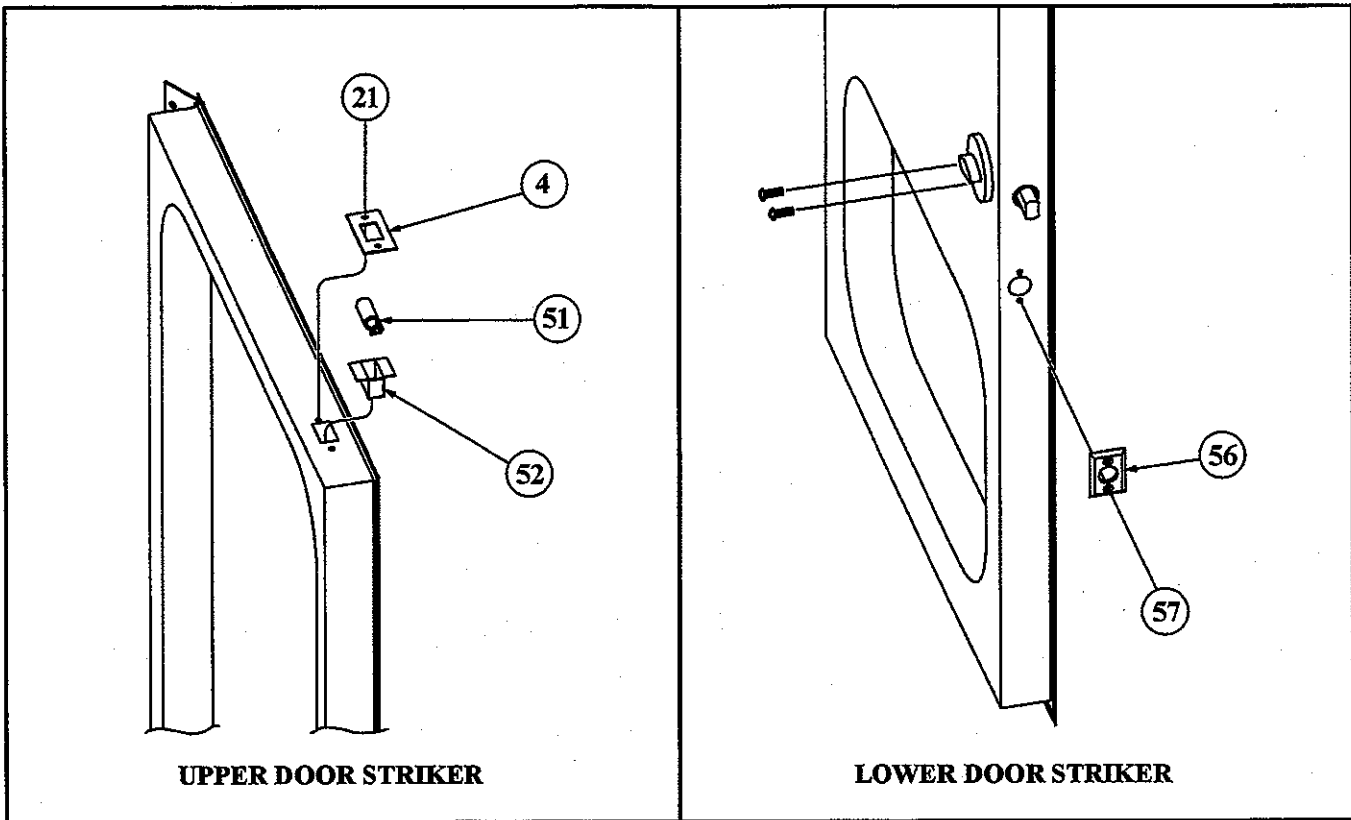

Figure 9—Upper and Lower Door Striker
- **Upper Striker.** (See Figure 9—Upper and Lower Door Striker.)
1. Remove screw (21), door striker (4).
2. Remove rubber seal G-7056 (51).
3. Remove upper retainer seal (52).
- **Lower Striker.** (See Figure 9—Upper and Lower Door Striker.)
1. Remove two screws from the inside lock plate. (See Figure 9—Upper and Lower Striker.)